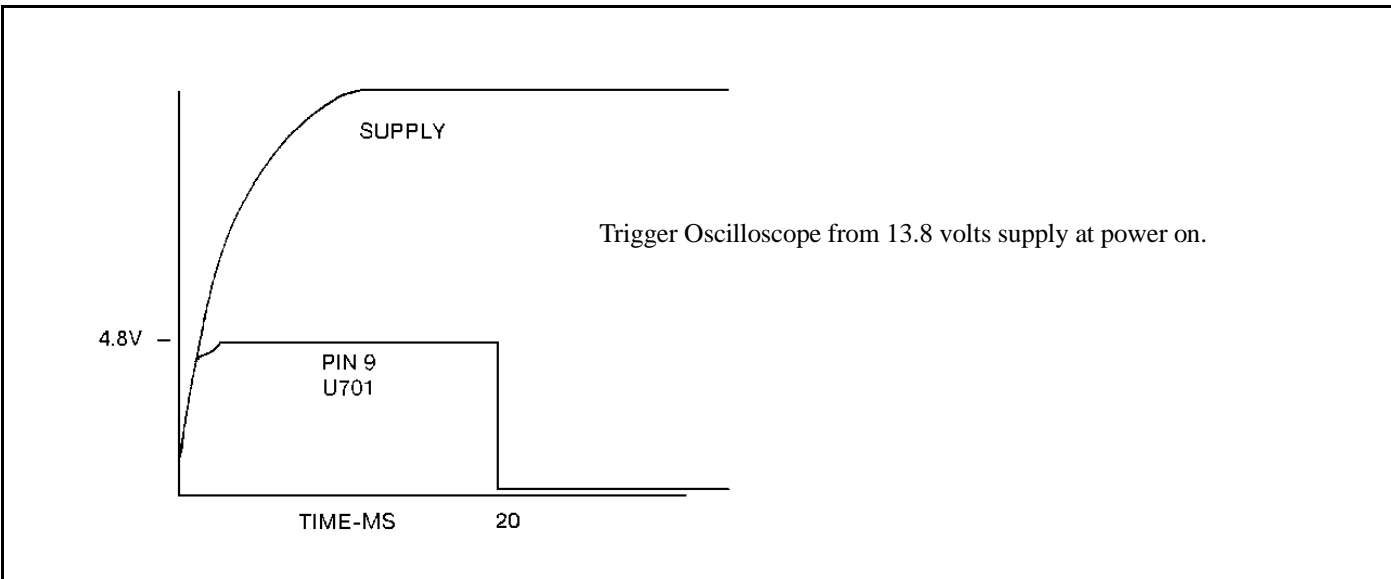

Figure 2 - Reset Waveform
- 2. Check the Microcontroller Reset line (U701, Pin 10). If Reset is occurring, check the Regulator U705, Pin 2 and Q701. See Figure 2 for Reset Waveform.